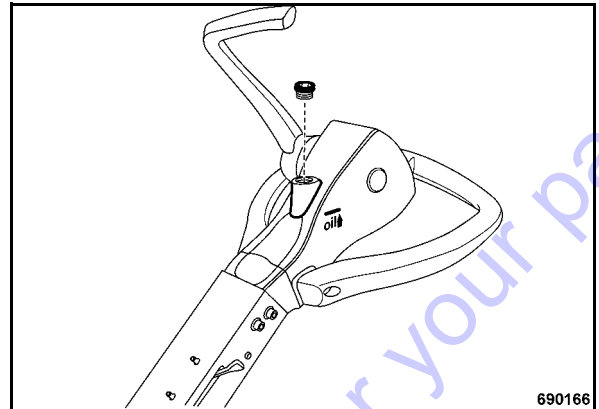

Fig. 82
- Screw in and tighten the plug (Fig. 82).